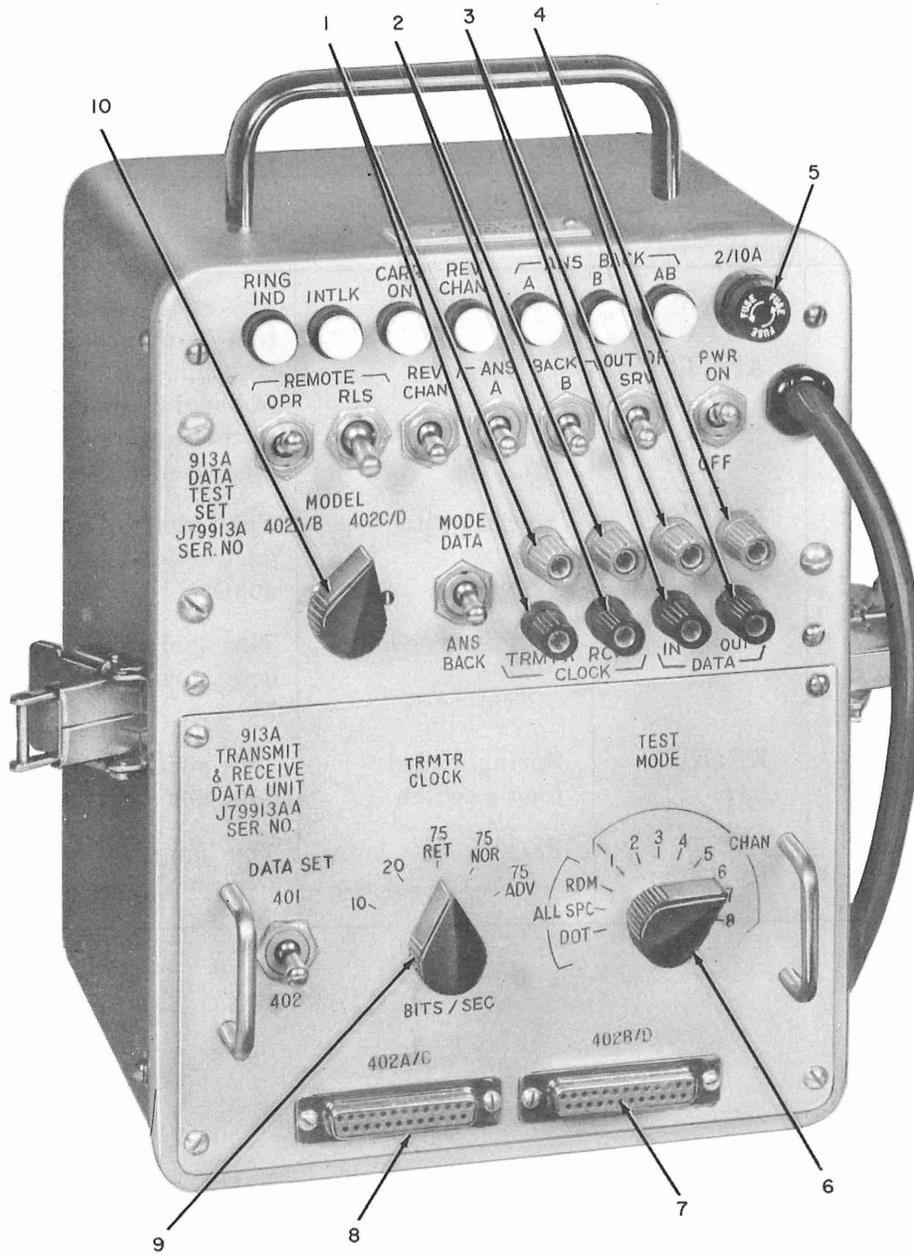

Fig. 8—913A Data Test Set—Rotary Switch, Terminals, and Fuse Functions
4.03 Refer to Fig. 8 and Table B for a functional description of the 913A Data Test Set, rotary switches, terminals, and fuse.